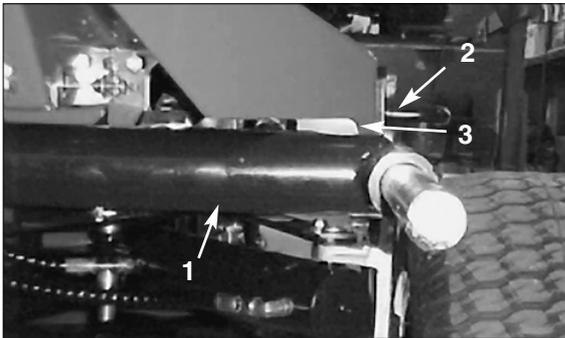
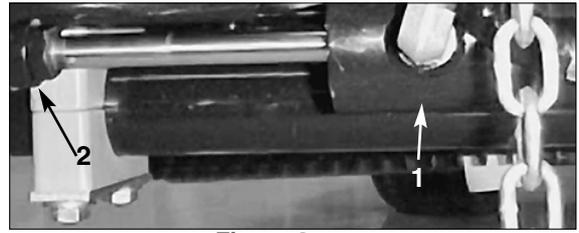
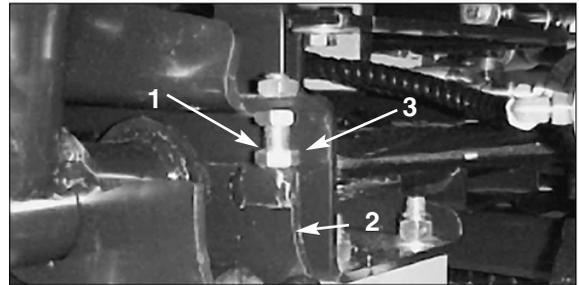

Figure 1
Figure 2
Figure 3
1. Start the engine, raise the decks and check to make sure the clearance between each lift arm and the floor plate bracket is 0.46–0.81cm (Fig. 1). If clearance is not in this range, back off the stop bolts (Fig. 3) and adjust the cylinder to attain clearance. To adjust the cylinder, back off the jam nut on the cylinder (Fig. 2), remove the pin from the rod end and rotate the clevis. Install the pin and check clearance. Repeat the procedure if needed. Tighten the clevis jam nut.
2. Check to make sure clearance between each lift arm and stop bolt is 0.13–1.02mm (0.005”–0.040”) (Fig. 3). If clearance is not in this range, adjust the stop bolts to attain clearance.